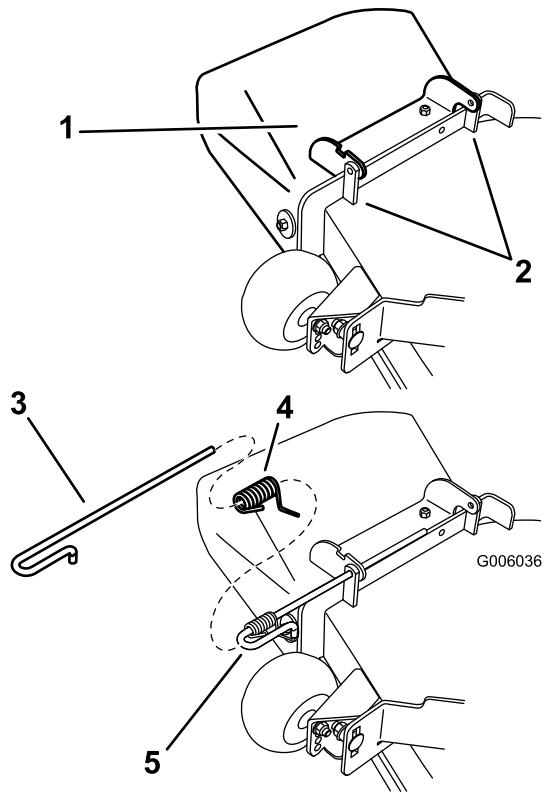

Figure 65
1. Disengage the spring from the notch in the deflector bracket and slide the rod out of the welded deck brackets, spring, and discharge deflector (Figure 65). Remove the damaged or worn discharge deflector.